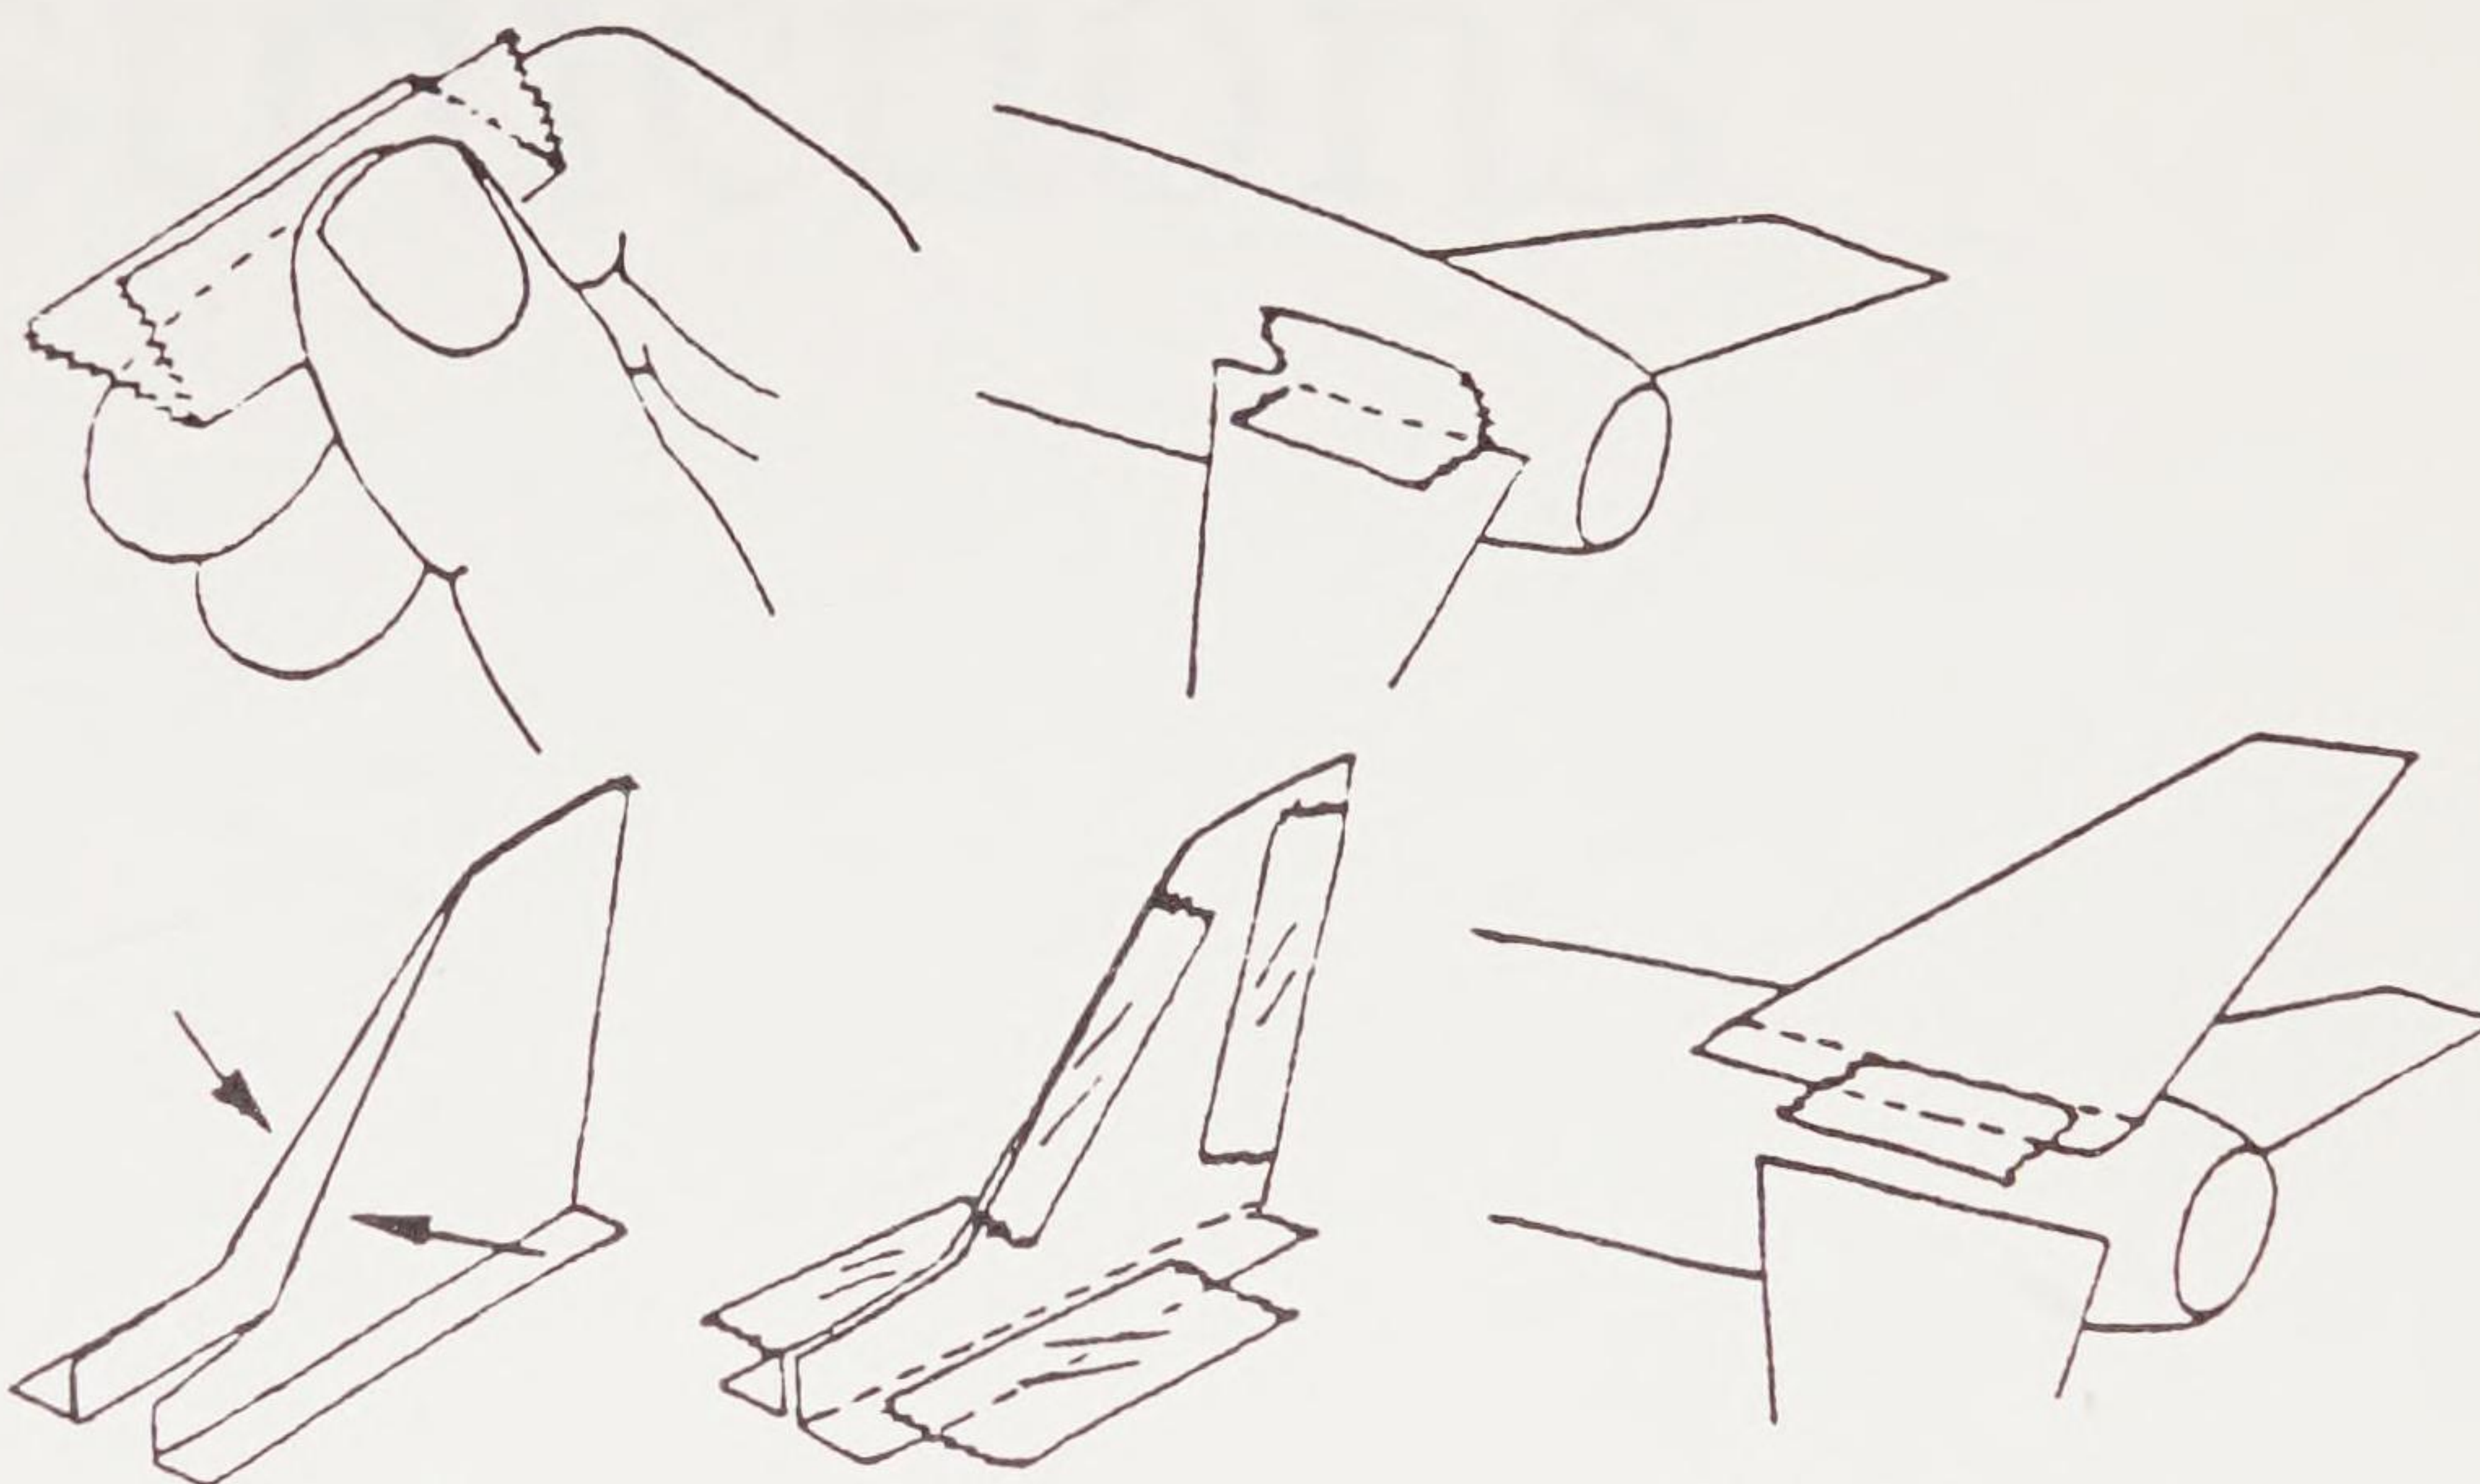

Fig. 13. Fold the vertical stabilizer (fin) together, center it on the fuselage, and tape it in place.
- ⑥ Leading edges of the stabilizer must be folded under as for the wing. Insert the stabilizer through the slots. Check the angle of incidence before attaching stabilizer. Secure with creased pieces of tape.
- ⑦ Fold the vertical stabilizer (tail fin) together and tape the edges. Tabs on the tail fin should extend straight out to the side. Apply tape to the tail fin tabs and position the tail fin over the rear of the fuselage. Keeping the tail fin aligned, press the tape against the fuselage sides. (FIG. 13)